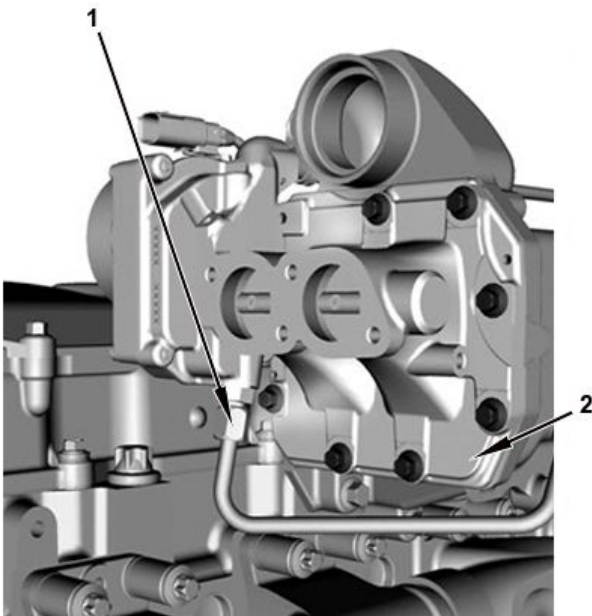

Figure 17. EGR Valve.
21. Remove EGR valve coolant supply tube nut (Figure 17, Item 1) and position tube away from valve (Figure 17, Item 2).